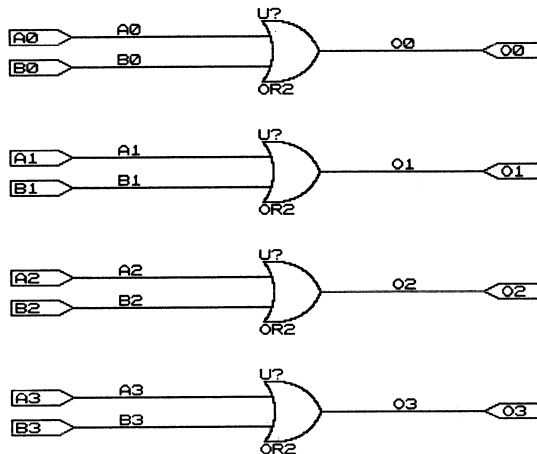

Figure 11-14 Schematic Drawing for ORBLK2
You need to change the AND2 gates to OR2 gates, and the ORBLK2 schematic will be complete, as shown in Figure 11-14.
6. Use **Place** to add the remaining components as in Figure 11-14.